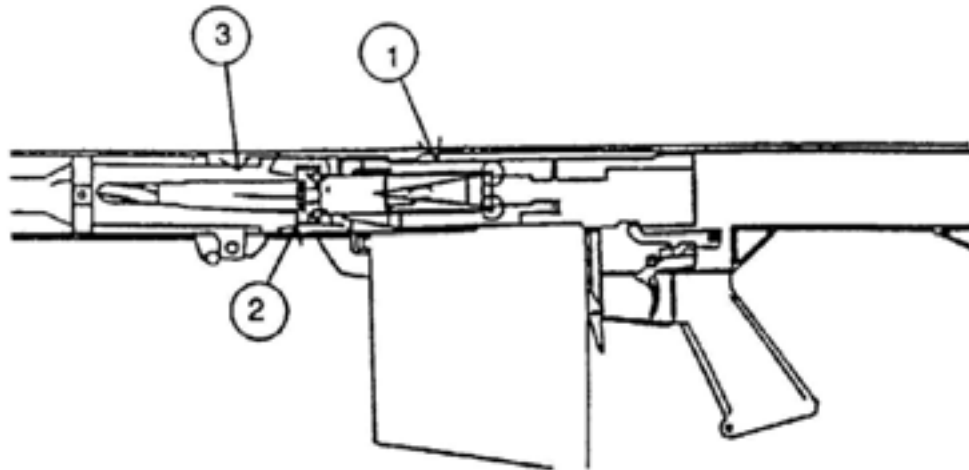
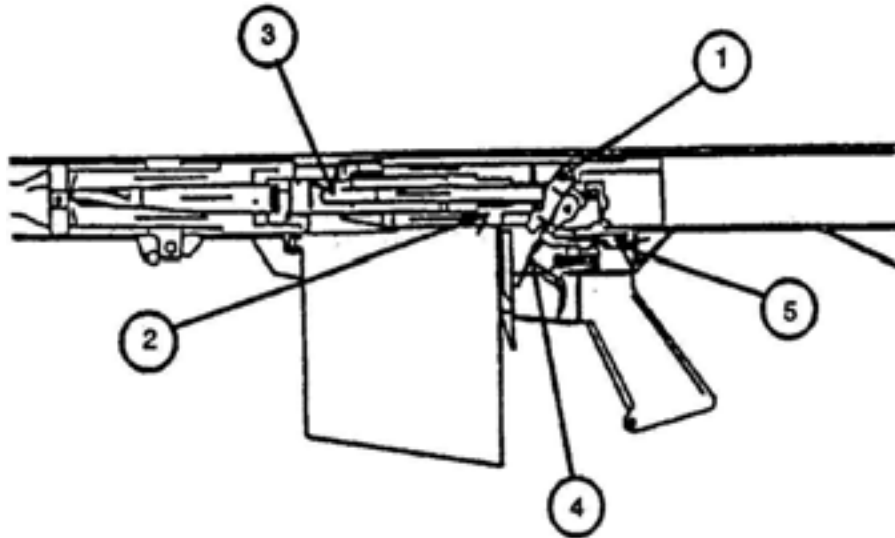

Figure 1-8. Unlocking Procedures
Figure 1-9. Cocking Procedures
1.3.6 UNLOCKING. When the cartridge is fired, gas pressure exerts a thrust on the bolt face via the case head. The bolt carrier (1), Figure 1-8, carries the bolt (2) and barrel extension (3) to the rear until the accelerator (1), Figure 1-9, protruding beneath the bolt carrier (2), contacts a shoulder in the trigger housing area. The accelerator is then pivoted up, causing the accelerator rod (3) to be pushed out of the bolt carrier. As it protrudes from the front of the bolt carrier, it separates the bolt from the barrel extension. Because of the cam slot in the side of the bolt, the bolt rotates as it travels rearward and unlocks from the barrel extension.
1.3.7 COCKING. As the bolt carrier recoils to the rear, the cocking lever (4), Figure 1-9, rides the transfer bar (5) back and down, causing it to disconnect from the trigger. The transfer bar is held down in the position by the disconnecter and not released until pressure is released from the trigger. After disconnection, the cocking lever swings on its pin and overrides the transfer bar. The other end of the cocking lever protrudes into the bolt carrier and into the firing pin extension. As the cocking lever pivots, it withdraws the firing pin and compresses the firing pin extension spring. The firing pin extension now catches the sear.